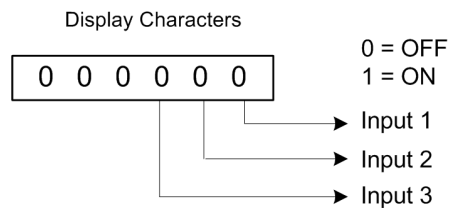

Figure 18: Display Bit Positions Associated with the Switch Inputs
2.	Press the ▲ UP ARROW key and the display will show the status of the three (3) switch inputs. When a switch is activated at one of the inputs, the corresponding display character toggles to “1.” When an input turns OFF, the corresponding display character toggles to “0.” Figure 18 shows the bit positions associated with the three (3) switch inputs.